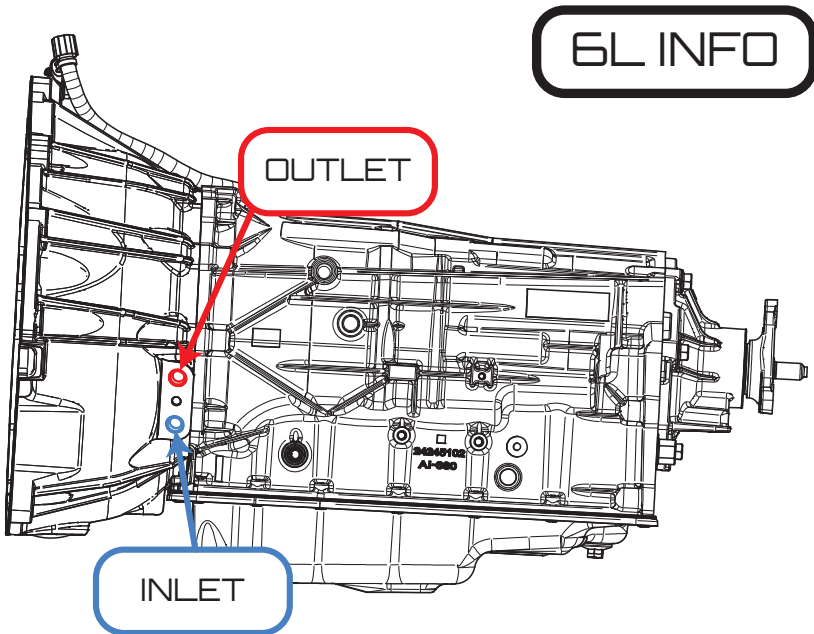
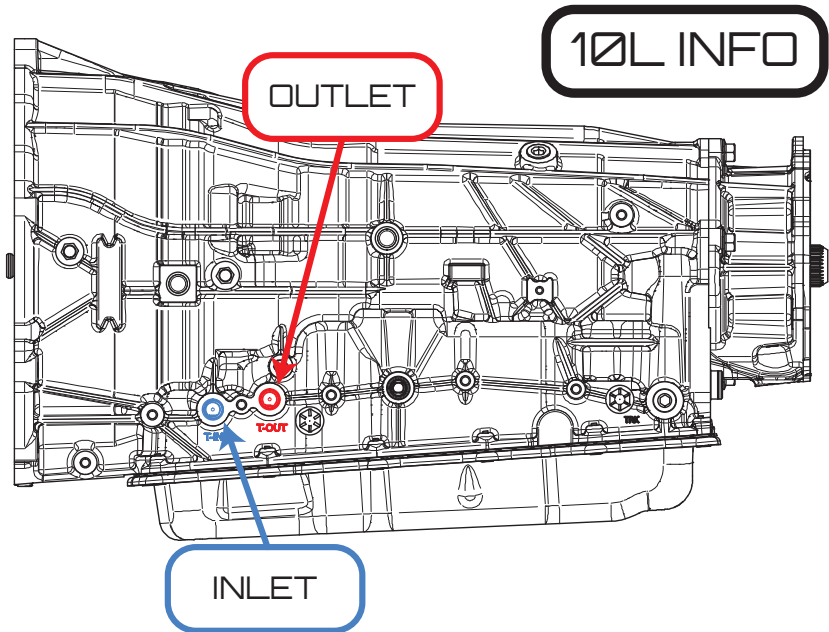

Figure 1 - 6L Transmission Adapter Location & Ports
Figure 3 - 10L Transmission Adapter Location & Ports
Use Figure 1 through Figure 3 to connect the hot and cold sides for your heat exchanger. For a given 6L, 8L or 10L transmission, the inlet and outlet will always be as shown in Figure 1 through Figure 3.
4. Remove the OEM cooling system according to the methods and procedures outlined in the factory service manual for your vehicle/ transmission. -OR- Remove the plugs from your crate transmission and refer to Figure 1 through Figure 3 for plumbing.